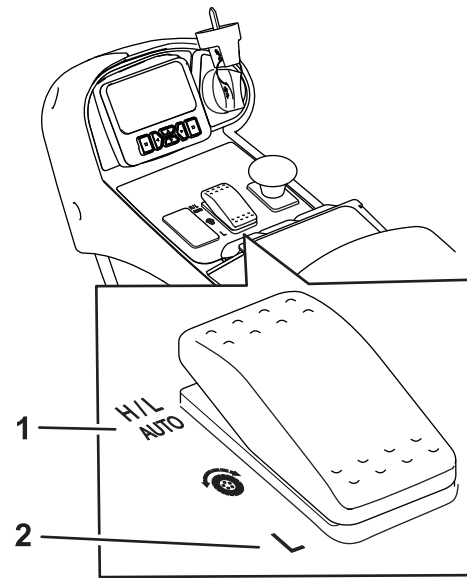

Figure 26
- Under normal operating conditions, this machine is intended to operate in the H/L AUTO position on the speed range switch (Figure 26). This position allows the machine to automatically switch between low and high speed ranges, depending on whether the machine is being used for mowing or transporting.
- When you select the LOW position on the speed range switch (Figure 26), the machine will always operate in low speed range. This setting is preferable for operation in a shop area, loading or unloading from a trailer, climbing steep inclines, or any other operation where the higher traction speeds of the high speed range is not desired.
This machine is equipped with 2 traction speed ranges; low and high. The speed range switch allows you to select the following positions (Figure 26):